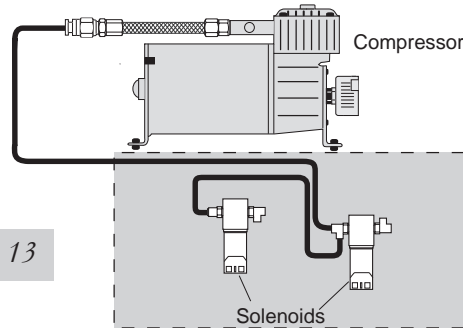

fig. 13
4. Install the remaining section piece of air line (I) onto the other leg of the same tee (Fig. 13).
5. Route this air line to the straight fitting installed on the driver side solenoid (E) (Fig. 13).